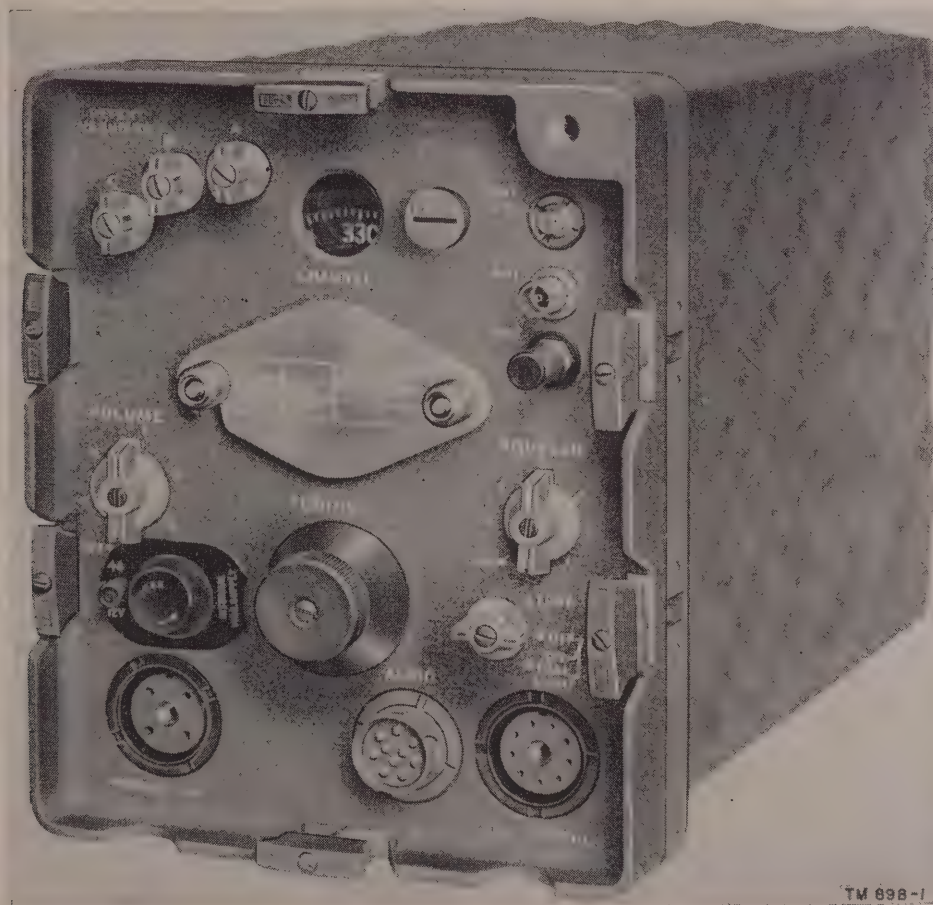

Figure 6. Radio Receiver R-108/GRC
structure, function, and detailed circuit and mechanical arrangement; they differ from one another only in their operating frequency ranges and in those components which determine the frequency range. Hence, Radio Receiver R-108/GRC (fig. 6) is similar externally to the other receivers except for the calibrations of the tuning dial. Receiver characteristics pertinent to system operation are listed in paragraph 5; complete information on the receivers is contained in a separate technical manual.
c. Mechanically, the receivers are panel-chassis assemblies inclosed in a metal case (fig. 6). The bottom of the case is fitted with channel rails which are used to secure the unit to the vehicular mounting (par. 32). When the case is removed, the replaceable parts on the receiver chassis are made accessible (fig. 50).